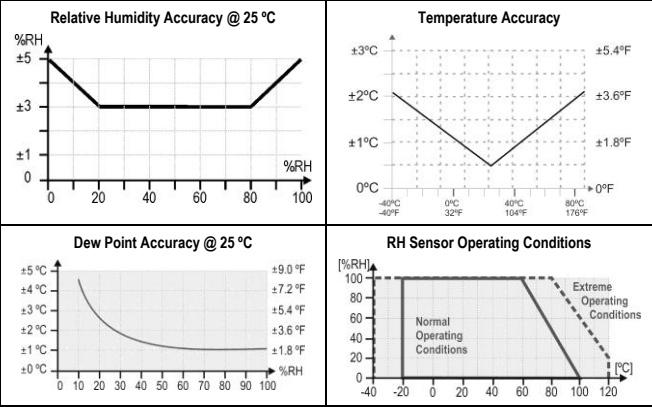

Figure 01 – RH and temperature accuracies
**Total accuracy:** Refer to **Figure 01**;
Humidity sensor has a total span of 0 to 100 % and accuracy of 3 % at 25 °C, as showed in **Figure 01**. This 3 % RH error is the same no matter if the total span is configured (0 to 100 %) or a narrower span (like 20 to 80 %).